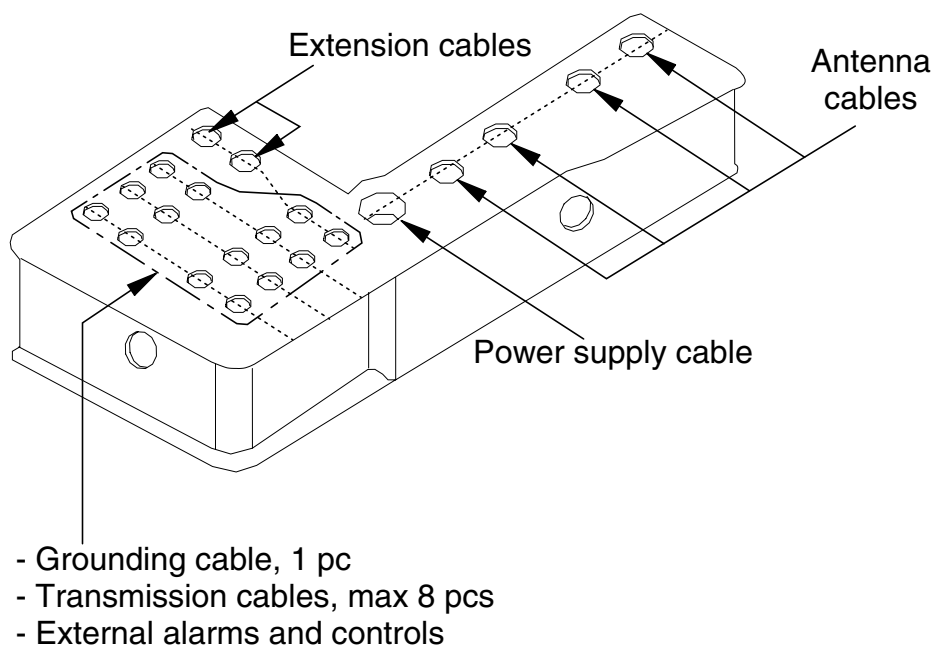

Figure 8. Cable entry block, cable allocations
6. Open the cable entry block at the point where the cables are routed. See Figure 8.
- c. Place the cables into their respective slots in the cable entry block (see Figure 8).
11. Route the cables through the appropriate slots cable entry blocks on the BTS cabinets and secure them with cable ties to the cable entry plate. Figure 8 shows the cable entry block.